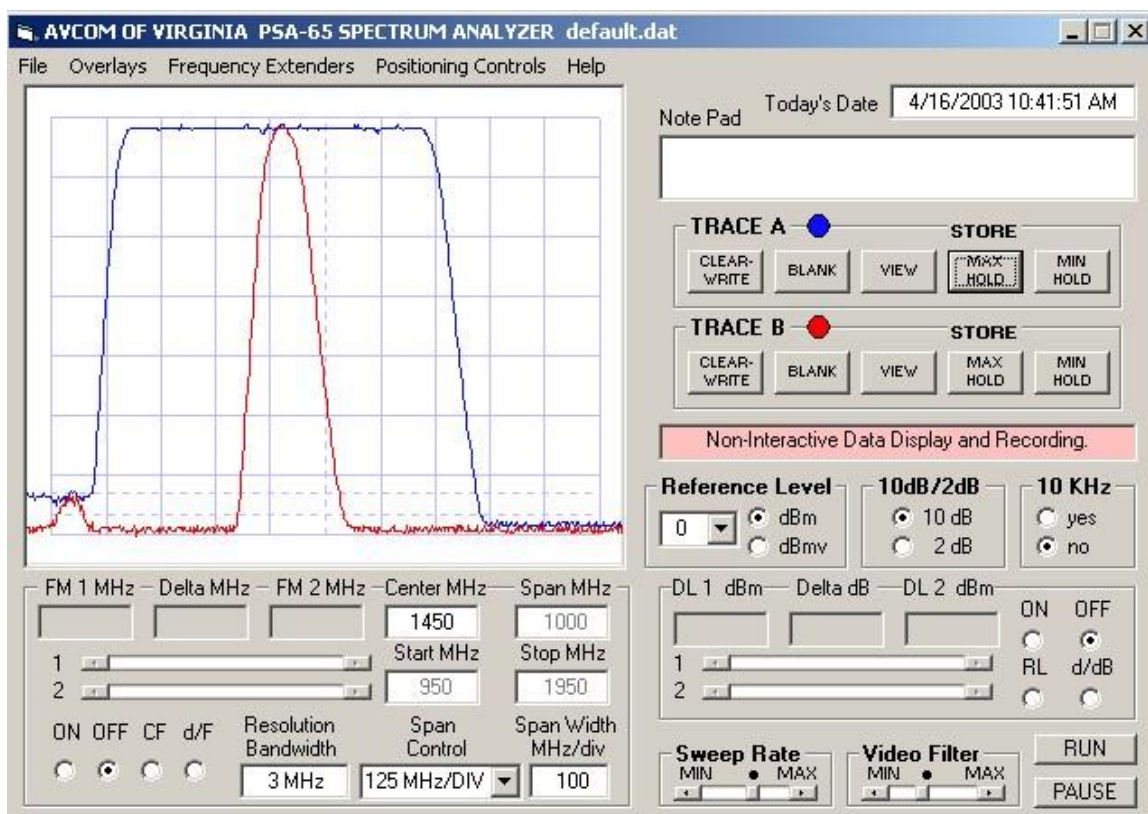

Figure 15-1
In Figure 15-1 you can see what it looks like when the Max Hold feature is used to sweep a certain piece of equipment.
2. Next, click on the MAX HOLD button of trace A. This will allow you to see the peak of a signal tuned in on your analyzer appear as a line across the top of the screen (See fig. 15-1).